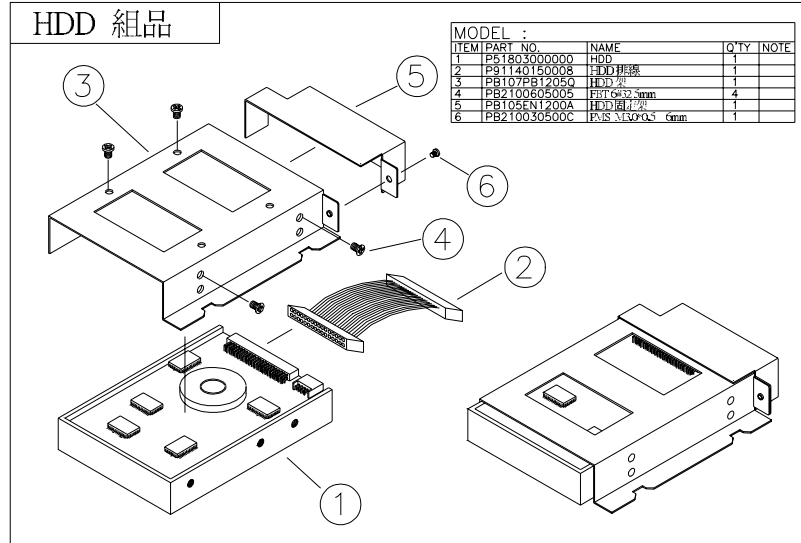

FIGURE 5-7: HDD INSTALLATION
4. Refer to figure 5-7. Remove the existing hard drive from the HDD metal bracket (3).
5. Insert the HDD (1) and fix it to the metal bracket (3) with 4 screws. Be sure to use the *SHORT*, round-head screws provided by the HDD makers.
6. Fix the metal bracket (5) to the HDD unit. This bracket is to prevent the HDD module from moving when it is installed into the system.
9. Connect the 40-pin IDE cable (2) to hard disk drive. Make sure the other end of the cable is already connected to the motherboard secondary IDE connector.